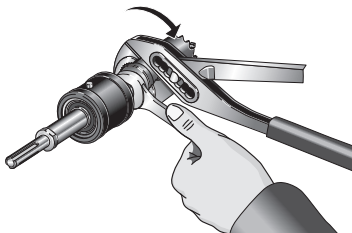

Figure 15 – Removing the Hole Saw
2. Loosen and remove the hole saw. (See Figure 15.)